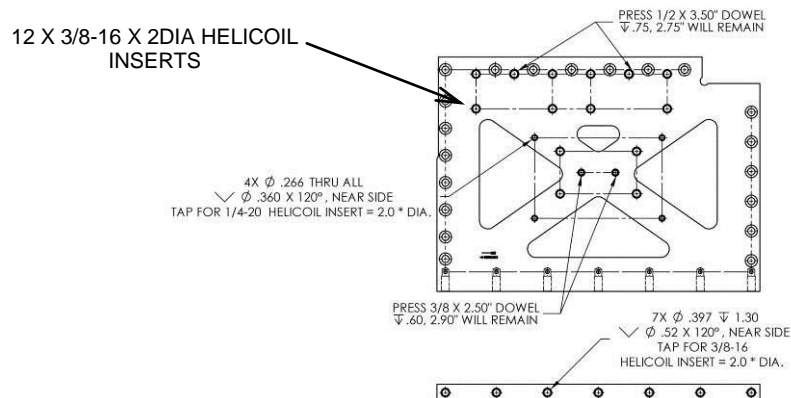

Figure 162: Prep Work for D0902281 Stage 1 Door
- Install Nitronic 60 Helicoil threaded inserts into D0902281. See Figure 162.
- Press (2) 3/8" x 2.5" dowel pins into D0902281. Pins should be flush on the back of D0902281 as shown on Figure 162.
- Press (2) 1/2" x 3.5" dowel pins into D0902281. Pins should be flush on the back of D0902281 as shown on Figure 162.